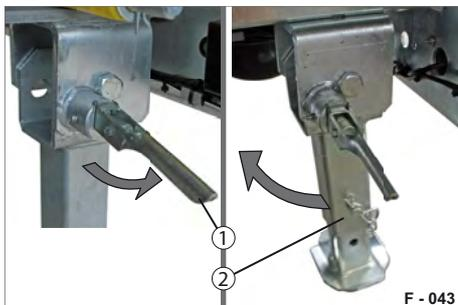

Fig. 66 Folding in folding support
- ▶ Pull the spring bar (Fig. 66/1) into a horizontal position.
- ▶ Fold up the folding support (Fig. 66/2) (horizontally) and lock it with the spring bar (Fig. 66/1).